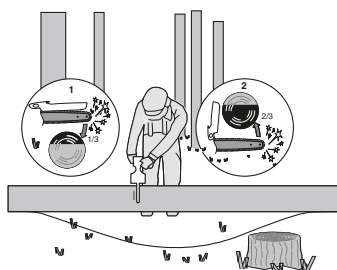

Figure 4
illustrated in Figure 4, cut 1/3 the diameter from the top (overbuck) (1). Then make the finished cut by underbucking (2) the lower 2/3 to meet the first cut.